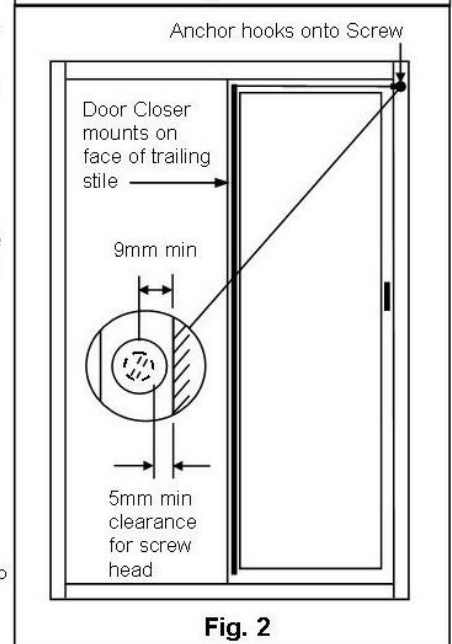

Fig. 2
**Step 1.** Mark and drill 3mm (1/8 inch) mounting holes on the face (not the end) of the door stile remote from the latch (trailing stile) so that the closer is at its highest without fouling the upper door track. Turn the pulley box to face the correct direction and fit the closer to the door (see Fig 2).
**Step 2.** Locate an anchor point on the door jamb (or wall) such that the nylon line is close to horizontal and will not rub against the side of the exit hole in the pulley box, and such that the tip of the screw, where exposed, will not interfere with full closure of the door. Also ensure that there will be a minimum of 5mm clearance round the head of the screw to fit the anchor lug. Drill and partially insert a screw (see Fig 2).